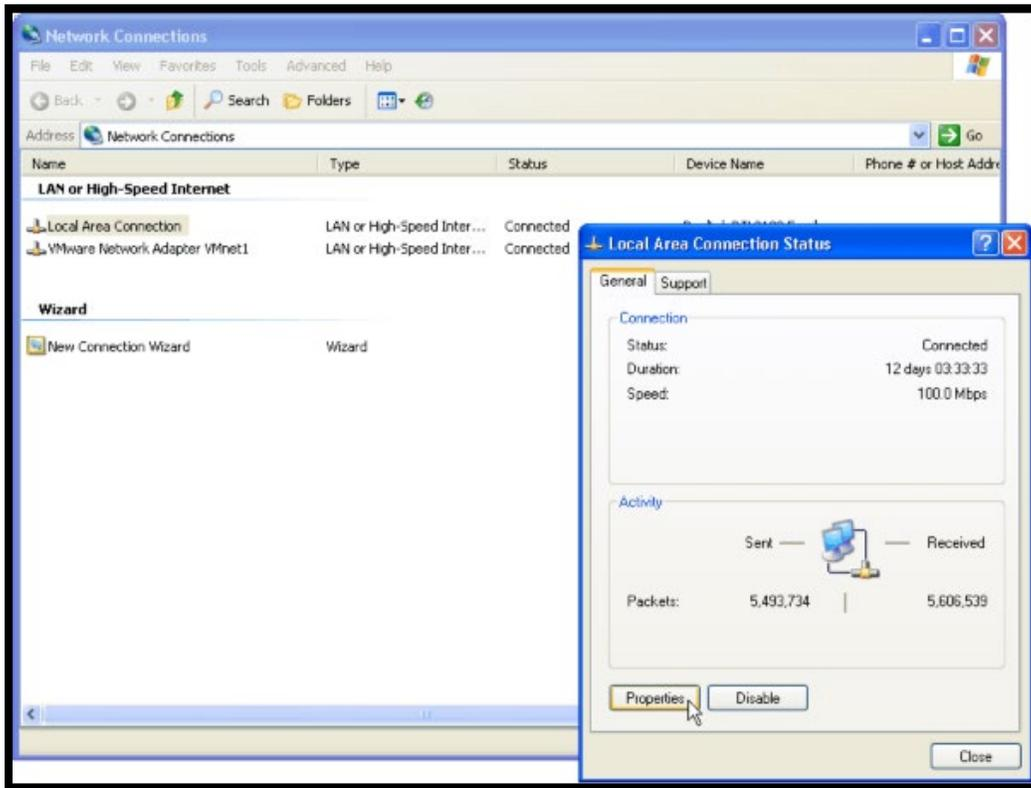

Figure 16. Access the LAN Properties for the PC
- Open the Windows network connections dialog for the PC (Figure 16). Click on the LAN entry and select **Properties**. (Note that the following figures show the network dialogs for Windows XP. The screens for Windows 7 will be slightly different.)